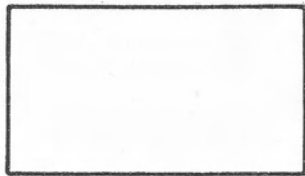
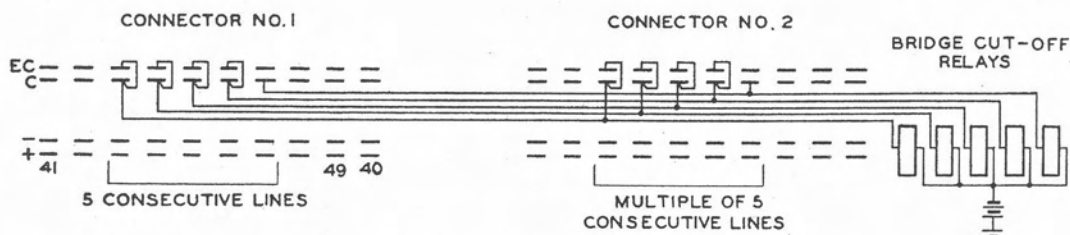
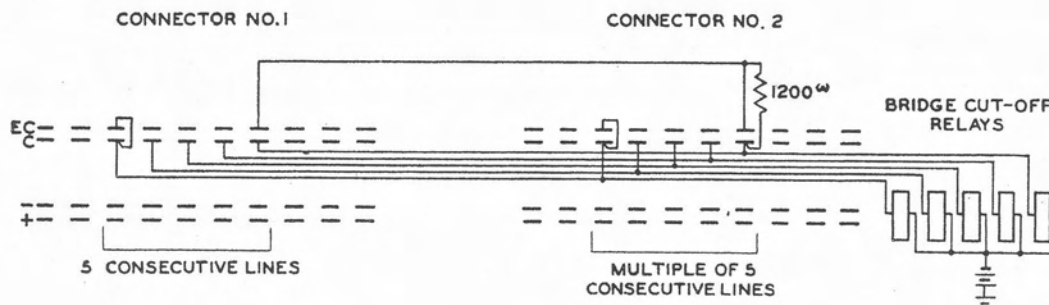
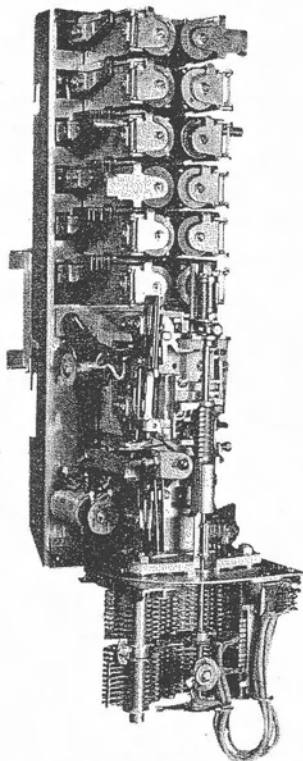

Figure 5. Five consecutive line numbers (43, 44, 45, 46, and 47) in the banks of a connector.
Figure 6. The most common pattern for 100-line connectors. Leads C and EC of all lines in the group, except the last, are strapped.
Figure 9. A pattern for 100-line connectors with night-line service and for level-hunting connectors.
Figure 14. Typical level-hunting connector.
(for figures 9, 14, 20, etc.),
At the right is the bank terminal block, at which all strapping (figure 9 in this case) is done.*
3.2 Bank-marking patterns. A P.B.X. group bank-marking circuit pattern developed in 1918 was so well conceived that it continues in use today in many Strowger trunk-hunting connectors. A fourth lead, the "extra control" lead, abbreviated EC, is required for each line in the trunk-hunting connector banks. Control lead C and extra control lead EC are strapped on all lines in a P.B.X. trunk group, except the last line in the group. For the five lines in figure 5, this is shown schematically in figure 6. The task of strapping leads C and EC is actually simpler than the schematic of figure 6 suggests. Both leads are multiplied throughout all banks on a shelf, and strapping is done at the shelf bank terminal block (figure 4) only once for each line.
The trunk-hunting feature of these connectors usually requires two additional relays in each connector: if the regular connectors in the central office have eight relays, the trunk-hunting connectors will have ten relays. If any line (such as 43, first in the group in figure 5) is dialed and is idle, the connector seizes the line in the usual way, namely by grounding lead C to operate the cut-off relay of the called line. Because leads C and EC of line 43 are strapped, in grounding lead C the connector grounds also lead EC at every bank multiple appearance of line 43. If, now, another subscriber dials line 43, during dialing of the last digit 3, the second connector tests lead C of line 43 and finds it busy. Lead EC being grounded, relay-interrupted rotary stepping takes place. During this automatic rotary stepping, the connector, seeking an idle line, looks for absence of ground on lead C, and each grounded contact EC causes another rotary step to be taken. If all lines in the group are busy, the wipers step to the last line in the group. There lead EC is open so no further steps are taken, and ground on lead C causes busy tone to be returned to the calling party.
people he can be reached during the evening on 44. If meanwhile he calls out, busying 44, a call to 44 finds the line busy, the connector hunts past 44, and 45 will be rung. The station on line 45 probably is in another part of the building and goes unanswered, or is answered by the shipping clerk who must ask the caller (who may be at a paystation!) to hang up and call again later. Inasmuch as night calls are infrequent, little difficulty arises, and for years most operating telephone companies have found the system of figure 6 entirely satisfactory.
The limited suitability of figure 6 to night service led to the introduction in 1932 of the bank-marking circuit pattern of figure 9. This, too, uses a fourth bank contact for extra control lead EC, for each P.B.X. trunk line. The first line in a trunk group has leads C and EC strapped.* Subsequent lines in the group have lead EC open, except the last line in the group which has a 1,200Ω resistor permanently connected between leads C and EC.
The bank wiring of figure 9 usually requires three additional relays in the connector: if the regular connectors in the central office have eight relays, the trunk-hunting connectors will have eleven relays. If any line (such as 43, first in the group in figure 5) is dialed, and is idle, the connector seizes the line in the usual way, namely by grounding lead C to operate the cut-off relay of the called line. If now another subscriber dials line 43, during dialing of the last digit, 3, the second connector tests lead C of line 43, finds it busy, and then tests lead EC. Lead EC being grounded, relay-interrupted rotary stepping takes place. During this automatic rotary stepping, the connector operates on the battery-searching principle, looking for negative battery thru the unoperated cut-off relay of an idle line. If all lines in the group are busy, the wipers step to the last line in the group. There, ground (from lead C) thru high resistance (1,200 Ω) marks lead EC to prevent further steps, and the ground on lead C causes busy tone to be returned to the calling party.
Comparing figure 6 and figure 9, we notice that in figure 6 lines in the middle of a group are marked the same as the first line of a group,
and cause hunting, whereas in figure 9 lines in the middle of a group lack marking, just as do lines not in a group, and cannot cause hunting. Thus, if any line in the group except the first is dialed, the connector wipers have no opportunity to come to rest on the first line, and the connector does not set itself for hunting. If a caller dials directly any line (other than the first) in a group, he will either ring the line number he dialed, or will hear busy tone; the connector will not attempt to complete his call over another line in the group.
Figure 20 is the circuit of a typical trunk-hunting connector with a chart illustrating the sequence of operation of the relays when a call is made to the first or 'pilot' number. The time chart illustrates automatic trunk hunting when the first 3 lines of a group are busy. Figure 9 shows the bank-marking arrangement and the wiring of a level containing a trunk-hunting group of this connector. When the pilot number is dialed and found busy, the connector will hunt until it connects to an idle line. When a number of the group other than the pilot number is dialed and found busy, the connector does not hunt but returns busy tone to the calling party. Thus any number other than the pilot number may serve as a night number.
A typical modern level-hunting connector is shown in figure 14. It can reach from one single line to a group of one hundred lines. A calling subscriber dials its wipers to the directory "pilot" number (the first terminal) of a called P.B.X. subscriber. If that first line is busy and bank markings indicate the called subscriber has additional lines, the level-hunting connector hunts across them all until an idle circuit is found.
Level-hunting connectors are only slightly more expensive than the more conventional single-level trunk-hunting connectors. Ordinary single-level trunk-hunting connectors with night service using bank markings per figure 9 require, as previously stated, eleven relays; as seen in figure 14, ordinary level-hunting connectors require twelve relays -- only one relay more.
Figure 16. Trunk-hunting automatic rotary and vertical stepping-circuit elements of the level-hunting connector of figure 14. In the upper right-hand corner of this figure are shown levels 5 and 6 of the bank contacts of figure 15. The wipers are shown on bank contact 50, about to take an eleventh rotary step on level 5 and then to be advanced to bank contact 61.
In figure 16, the level-hunting connector of figure 14 has been dialed to 51, the pilot number of the 37-line group shown in figure 15. Vertical wiper VW is thus disengaged from vertical bank VB. Lines 51 thru 63 are busy. Ground on lead EC of line 51 has set the connector for relay-interrupted rotary stepping, battery searching, hunting negative battery through the cut-off relay of the first idle line, 64. Rotary-interrupter relay RI keeps operating, closing the circuit of rotary magnet RM. At each busy contact C reached, ground prevents battery-searching relay BS operating. Relay RI re-operates, etc., and thus we step across 51, 52, 53, 54, 55, 56, 57, 58, and 59 to 50.